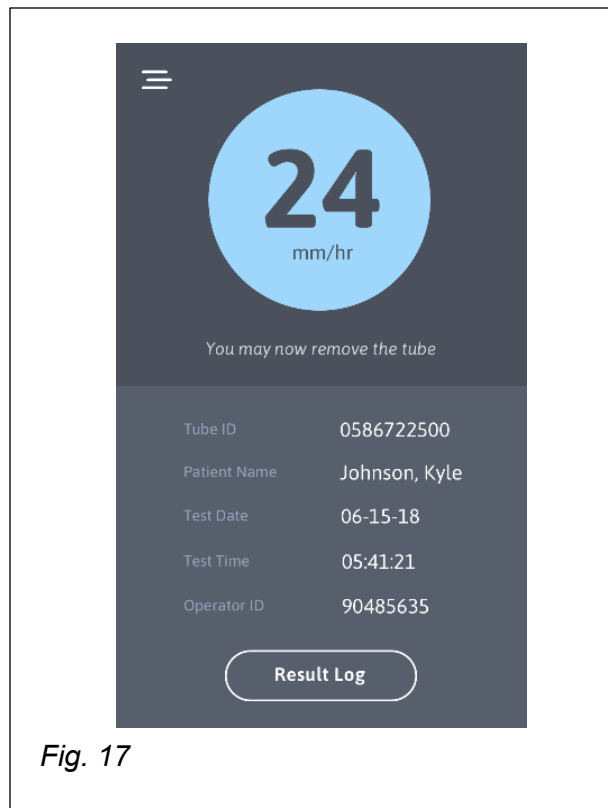

Fig. 17
4.2.5. When testing is complete, the tube is returned to the loading port for retrieval and the test result is displayed on the touch screen (Fig. 17).